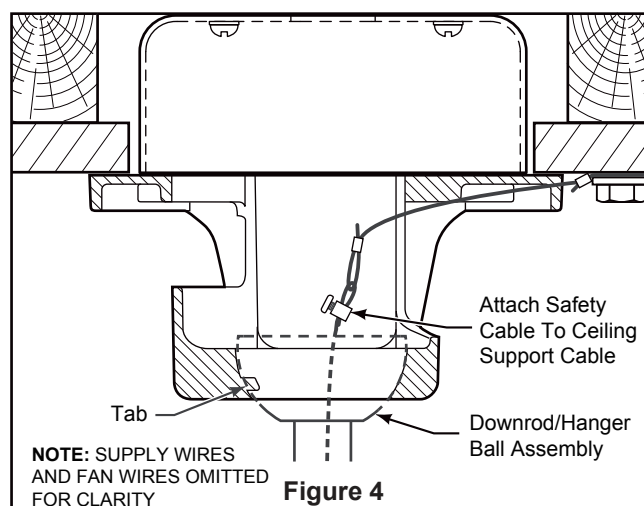

Figure 4
4. Insert downrod into the downrod support on top of the motor. Install the clevis pin by aligning the holes in the downrod support with holes in the downrod. Secure clevis pin with hairpin clip. Tighten the two set screws with nuts in the downrod support. (Figure 4)
4. Carefully lift the fan and seat the downrod/hanger ball assembly onto the hanger bracket that was just attached to the outlet box. Be sure the groove in the ball is lined up with tab on the hanger bracket. (Figure 4)
5. Attach the safety cable to ceiling support cable. Slide cable clamp and washer onto safety cable (from fan). Place the end of cable through the loop of ceiling support cable. Pull as much cable through loop as possible. Feed end of cable into clamp hole and firmly tighten screw. (Figure 4)
- ☐ **4.** Securely attach 9-pin connector from motor assembly to wiring harness socket within switch cover assembly. (Figure 4)